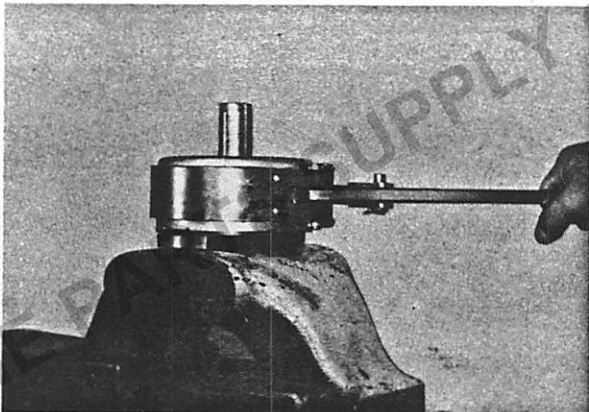

Fig. 4-75 Removing the case
1. Clamp timer mounting stand in a vise and install the timer onto the stand with the key and round nut. Remove the timer case by using band wrench (Part No. 95906-02060) as shown in **Fig. 4-75**. The timer case is removed by turning it clockwise.